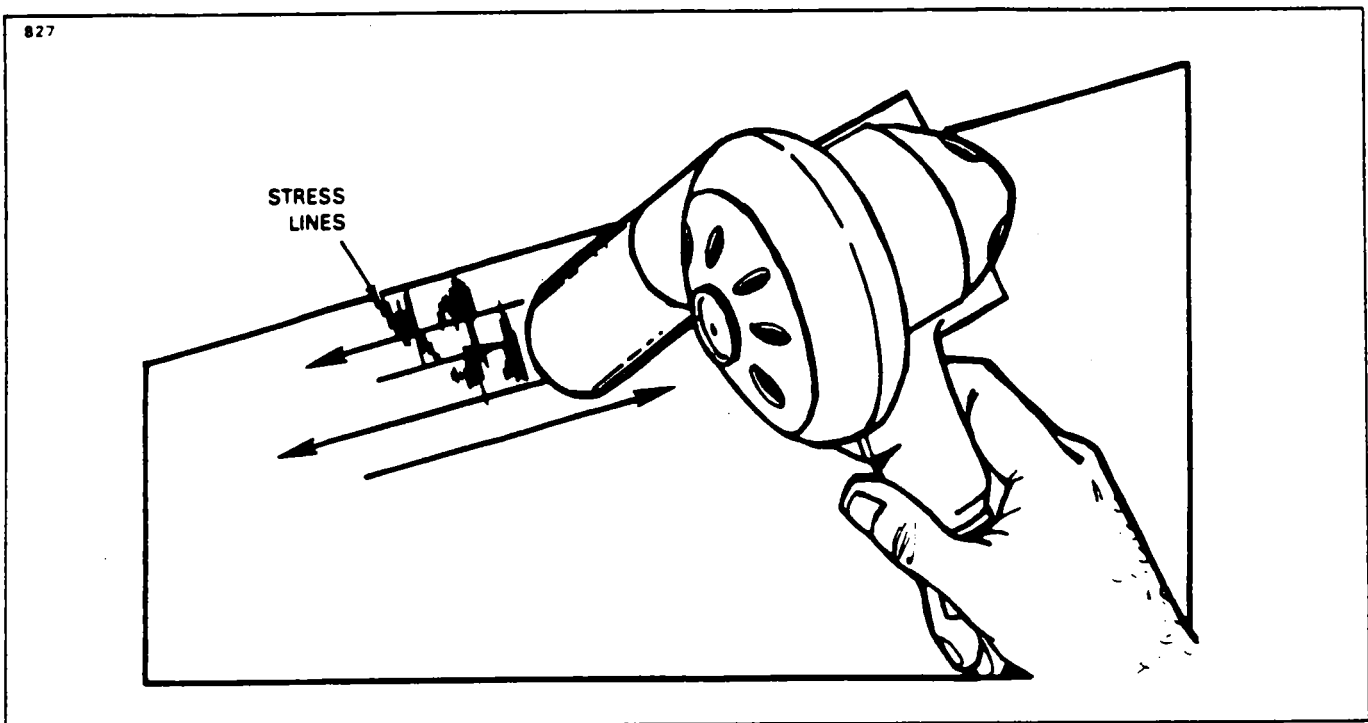

Figure 51-8. Repair of Stress Lines
6. Stress Lines: (Refer to Figure 51-8.)